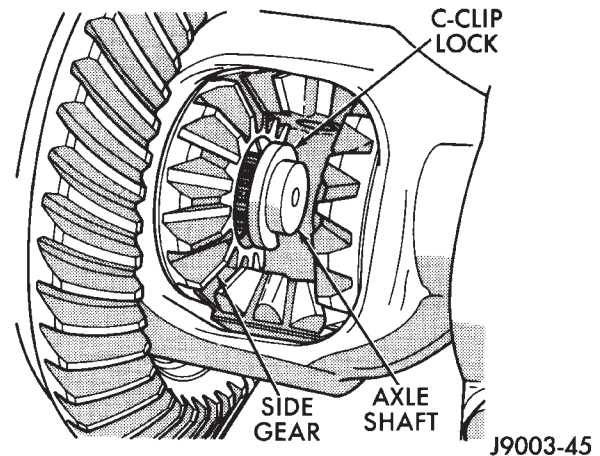

Fig. 20 Axle Shaft C-Clip Lock
(7) Push axle shaft inward and remove axle shaft C-clip lock from the axle shaft (Fig. 20).
(8) Remove axle shaft. Use care to prevent damage to axle shaft bearing and seal, which will remain in axle shaft tube. Also, exercise care not to damage the wheel speed sensor on vehicles equipped with ABS brakes.